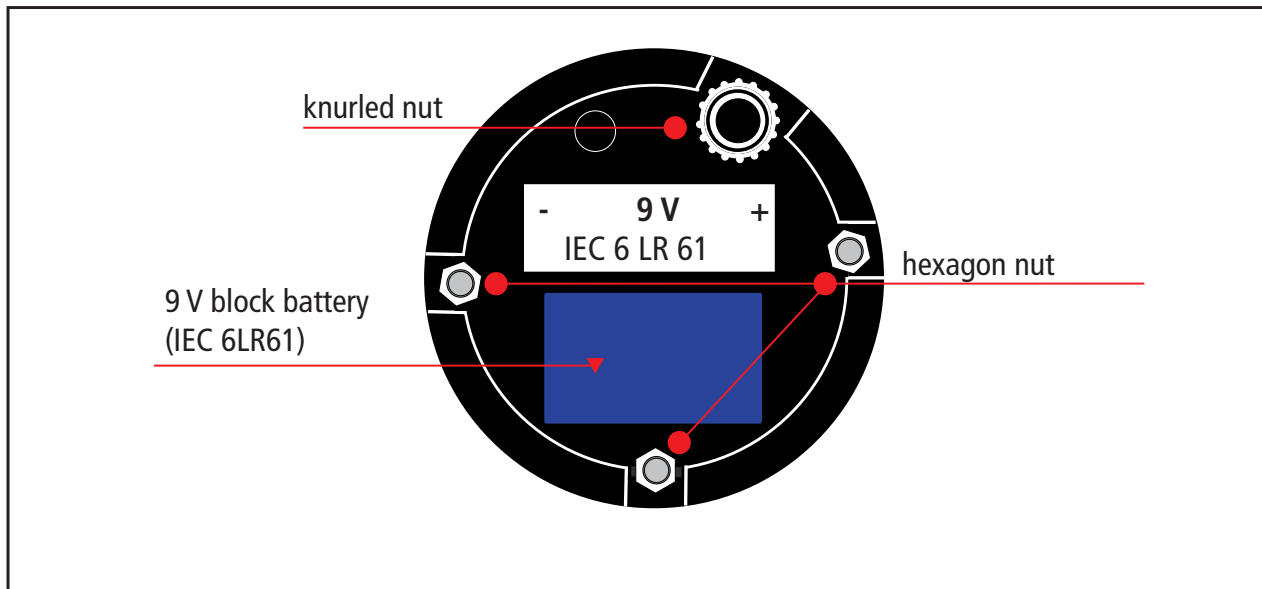

Fig. 9.5 Lower part of the electronic element
- 9.5 Before assembling the indicator, ensure tight fit of the hexagon nuts screwed to the electronic element as well as the knurled nut. If nuts (hexagon or knurled nut) are loose or missing, withdraw the voltage detector (indicator) from service and send it to **DEHN + SÖHNE** for repair (see Fig. 9.5)!